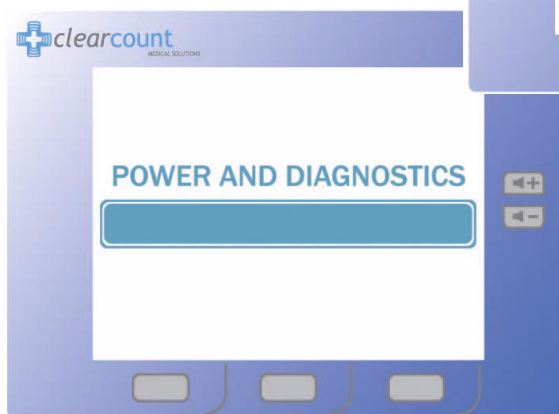

Figure 2-3 Boot-up Screens
After the on/off switch is set to on (I), the Starting screens shown in Figure 2-3 appear.
The Starting Screen, shown at the top of Figure 2-3, appears on the display first for 10 seconds after the on/off switch is set to on.
The Boot Screen, which follows the Starting Screen appears for 3 seconds. Shown in the center of Figure 2-3, this screen shows the version of system firmware and the device (SmartSponge System) identification (ID).
The Diagnostic Screen, shown at the bottom of Figure 2-3, appears for 9 seconds. This screen has a Progress Bar that fills in from left to right in segments. When the bar completely fills in, the system displays the Standby (ON) screen. See Figure 2-4. The **Standby** Screen remains on the display until the user presses the **ON** button to start or continue a surgical case.